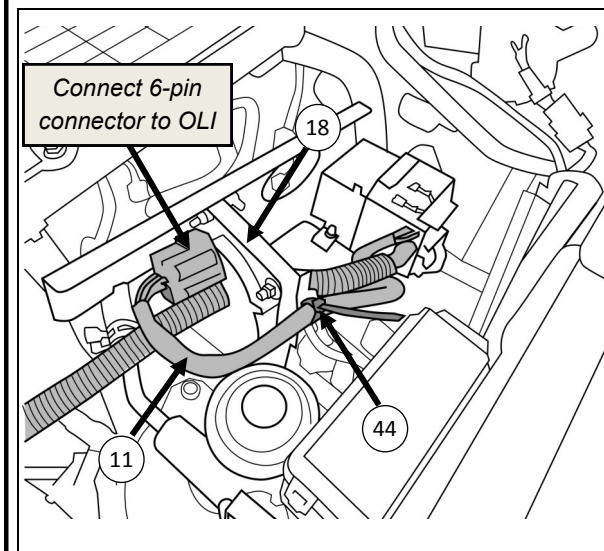

Figure 20: Route Winch Controller Harness
- Route 6-pin connector branch of Winch Controller Harness (Item 11) towards OLI (Item 6) alongside OLI Bracket (Item 18) as shown in Figure 20. Connect 6-pin connector to OLI (Item 6).